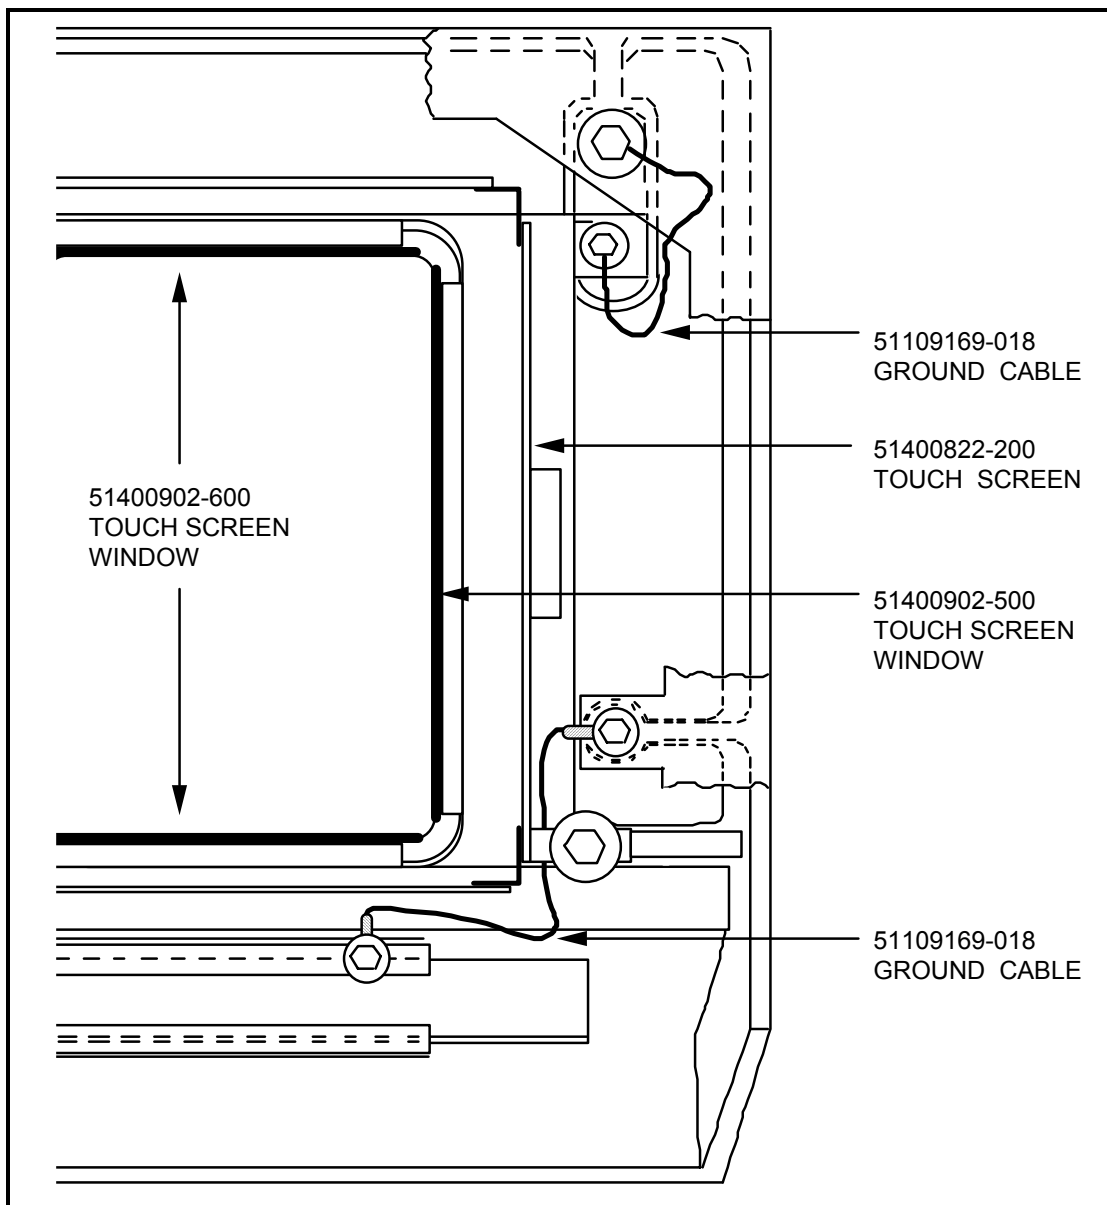

Figure 7-1 — Smart Frame Touchscreen Cabling
- Connect the Smartframe power cable, 51304031-150, to the Smartframe touchscreen as shown in Figure 7-1.
- Connect the Smartframe data cable, 51304030-150, to the Smartframe touchscreen as shown in Figure 7-1.
5. Connect the ground cable, 51109169, as shown in Figure 7-1.